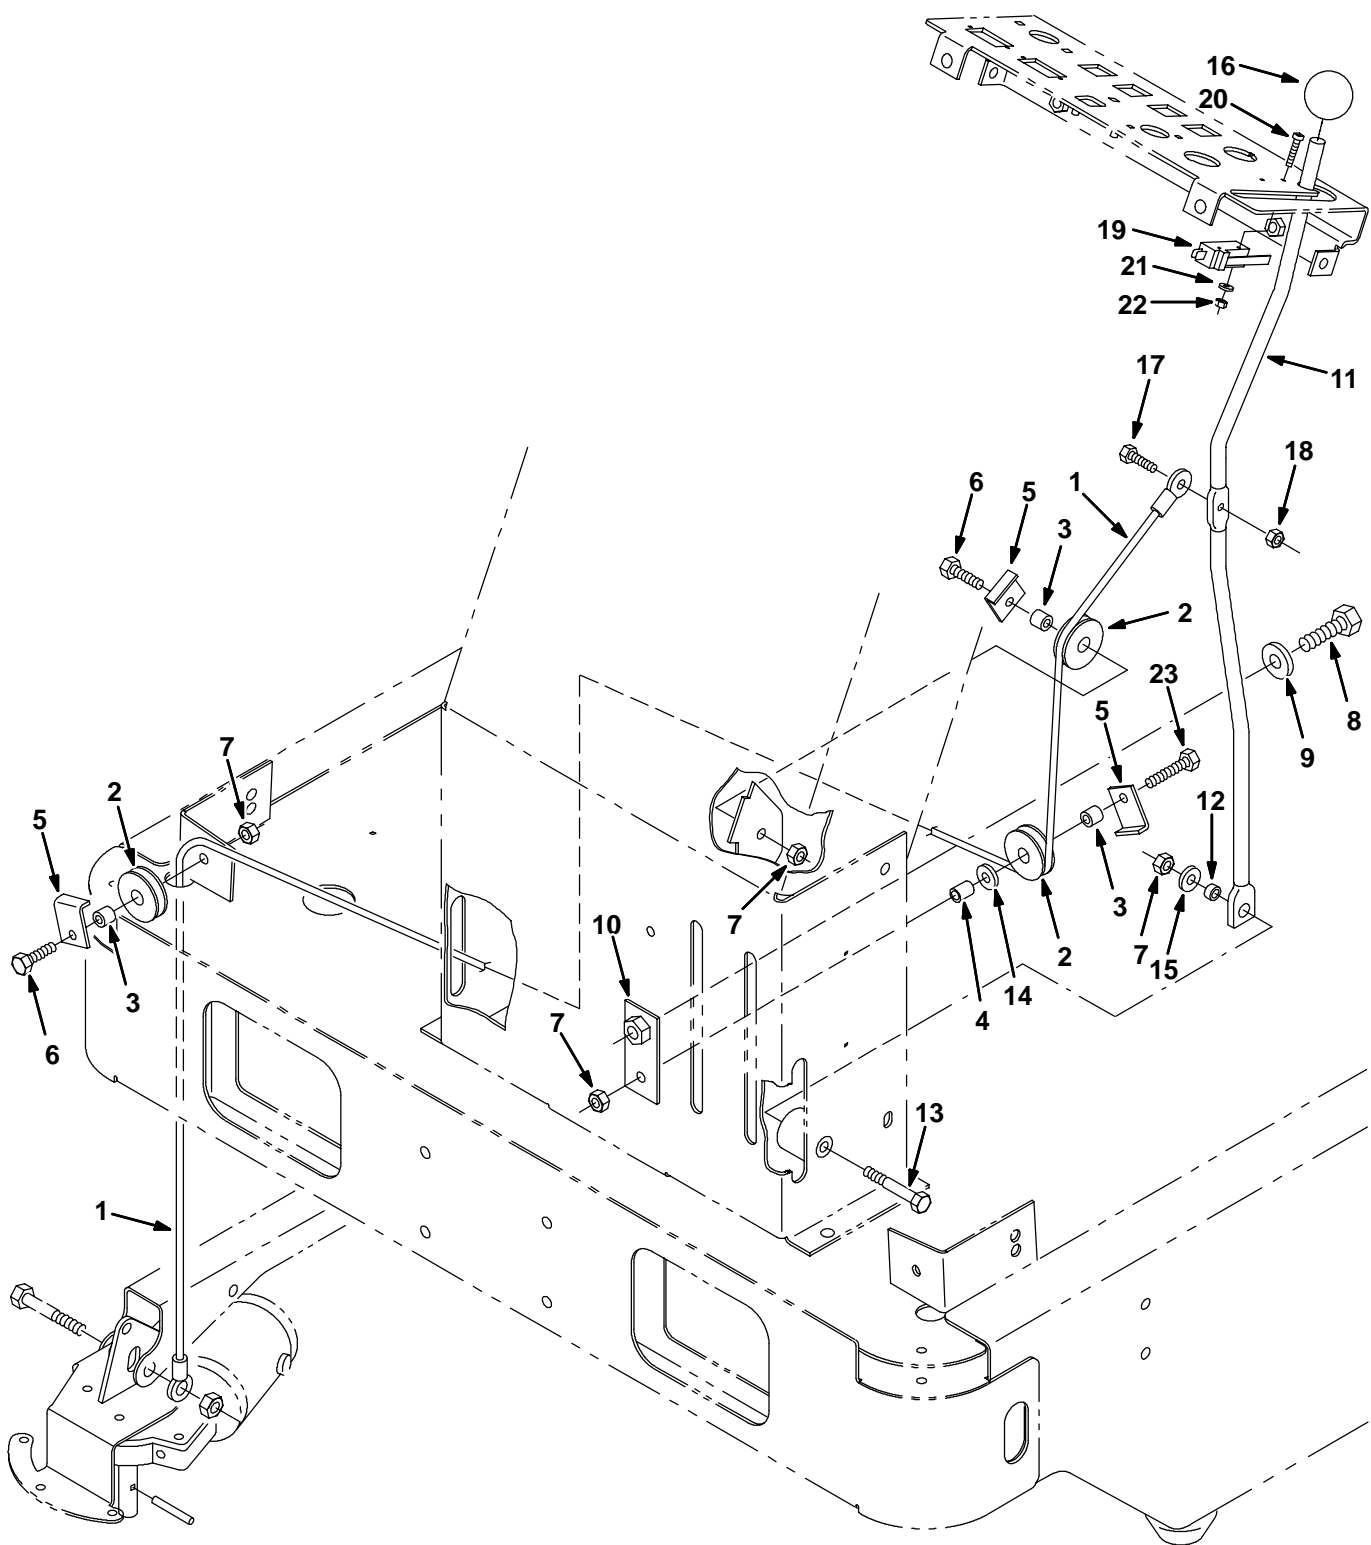

FIG. 3 - RIGHT HAND SIDE BRUSH LIFT GROUP
1. Guide the right hand side brush lift cable (1) up through the frame of the machine just inside the right, front corner brace. (Refer to FIG. 3)
2. Route the lift cable (1) up over the pulley (2). Secure the cable and pulley to the corner brace with one hex screw (6), angle piece (5), sleeve (3), and hex nut (7). Tighten hardware finger tight. (Refer to FIG. 3)
3. Mount the side brush lift plate (10) to the right side of the side brush support with hex screw (8), and washer (9). Tighten the hardware finger tight. (Refer to FIG. 3)
4. Guide the lift cable (1) under the second pulley (2). Secure the lift cable (1) and pulley (2) to the side brush support with one hex screw (23), angle piece (5), two sleeves (3) and (4), a washer (14) and hex nut (7). (Refer to FIG. 3)
5. Guide the lift cable (1) over the third pulley (2). Secure the cable (1) and pulley (2) to the top of the side brush support with one hex screw (6), angle piece (5), sleeve (3), and hex nut (7). Tighten the hardware finger tight. (Refer to FIG. 3)
6. Connect the end of the lift cable (1) to the side brush lift handle with already existing cable mounting hardware. (Refer to FIG. 3)